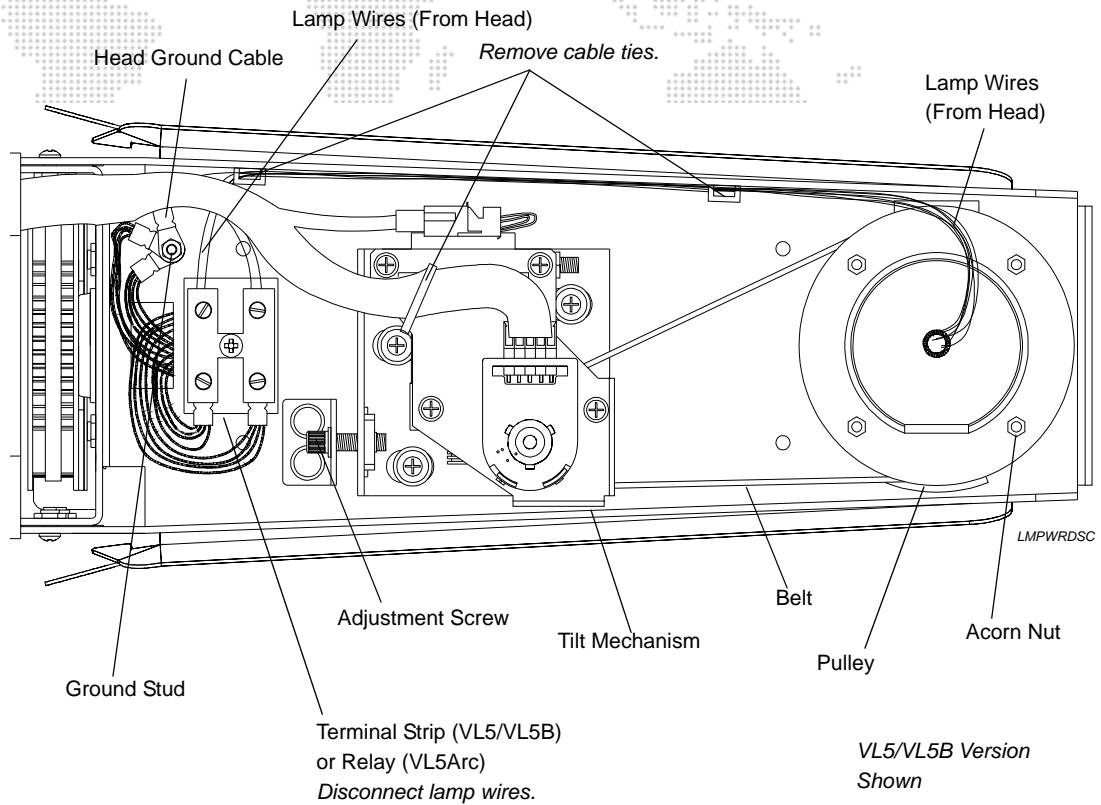

Figure 2-25: Tilt-Side Yoke Leg
Step 3. At tilt-side yoke leg, disconnect head assembly lamp wires and ground cable. **Figure 2-25.**
- d. Using diagonal cutters, remove two cable ties securing lamp and ground wires to yoke leg. **Figure 2-25.**
- c. Using diagonal cutters, remove two cable ties securing lamp and ground wires to yoke leg. **Figure 2-25**.